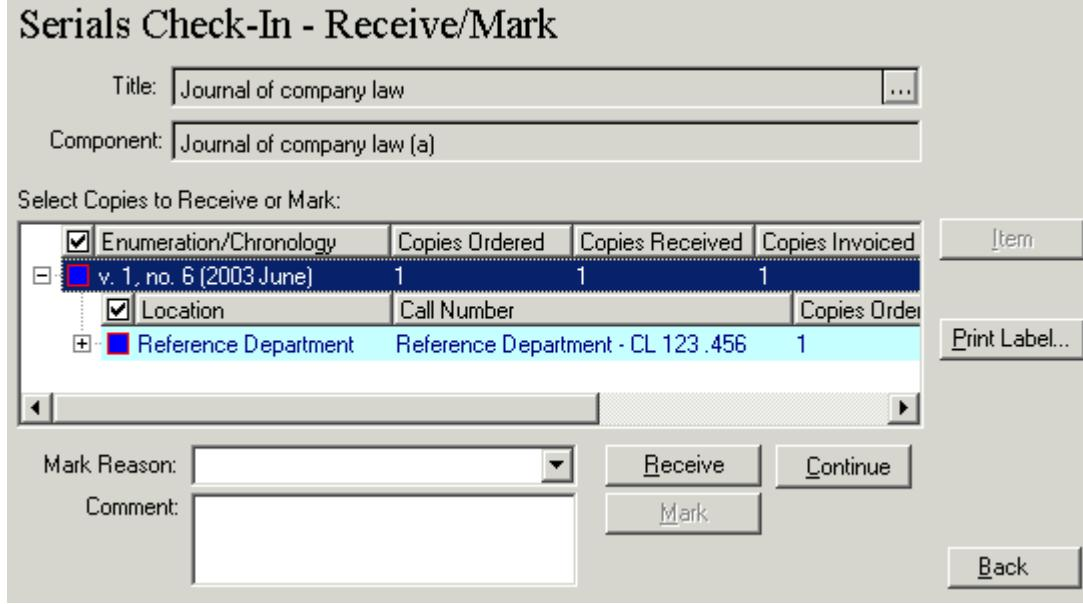

Figure 9-7. Serials Check-In workspace after receiving an issue
- The **Serials Check-In Receive/Mark** workspace displays the information of the issue you received if items are not created, item maintenance is not done, and there is no routing list associated with the component (see Figure 9-7).